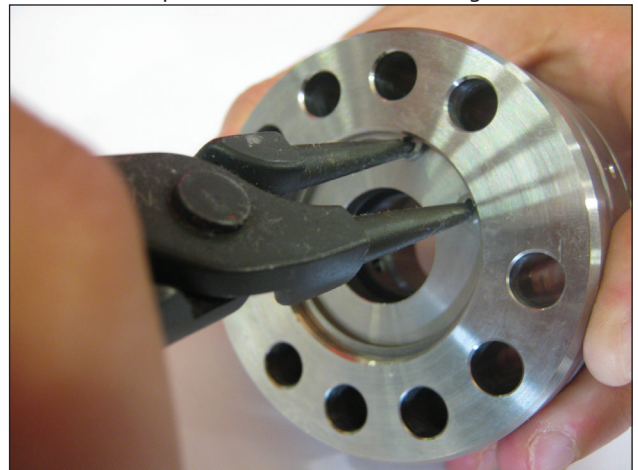
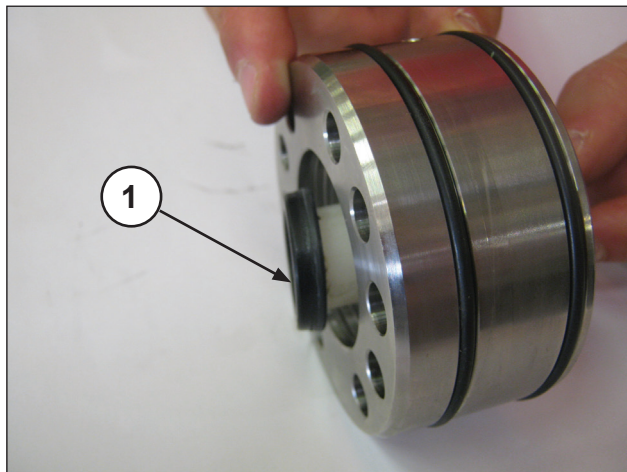

Fig. 126
Fig. 127
- Remove the seeger ring and the seal retainer ring as shown in Fig. 126, and using a special plastic pin extract the LP (low pressure) seal ① as shown in Fig. 127.